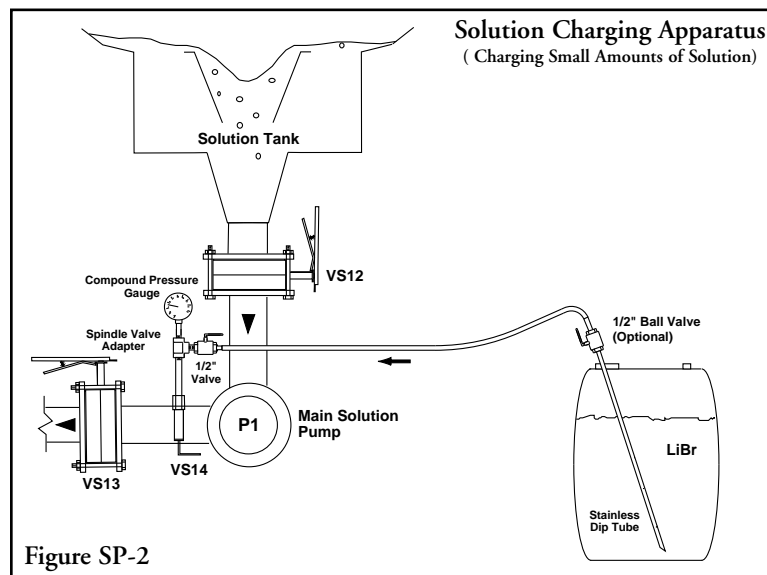

Figure SP-2
1. Set up charging apparatus as shown in Figure SP-2 on previous page.